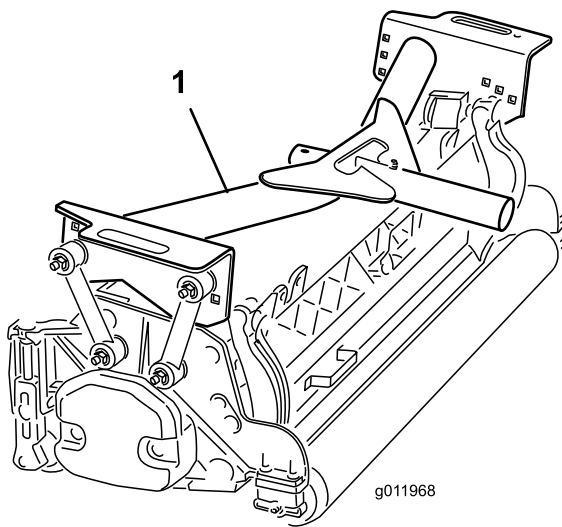

Figure 16
2. Position a front carrier frame (Figure 16) onto each front cutting unit.